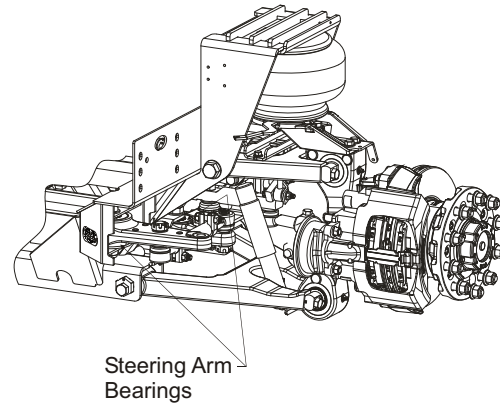

Figure 9
2. Start vehicle engine. Oscillate the steering wheel and observe the motion of the steering arms (**Figure 9**). The steering arms should not exhibit any noticeable conical motion about their pivot axes.